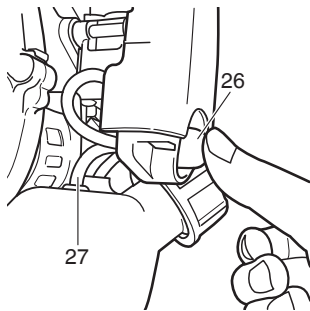

Fig. 16
(2) Push priming bulb (26) several times so that fuel flows through return pipe (27). (Fig. 16)